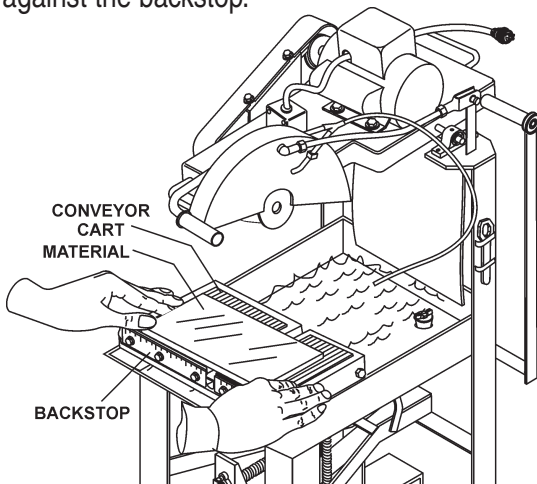

Figure 25. Material Placement
9. Avoid overloading the engine when cutting. In the event that the engine becomes overloaded, turn the engine **ON/OFF** switch to the **OFF** position (Figure 25) and allow the engine to **cool** before attempting to restart.
2. Turn the engine **ON/OFF** switch to the **OFF** position (Figure 25).
- Place the material to be cut (Figure 25) on the conveyor cart against the backstop.